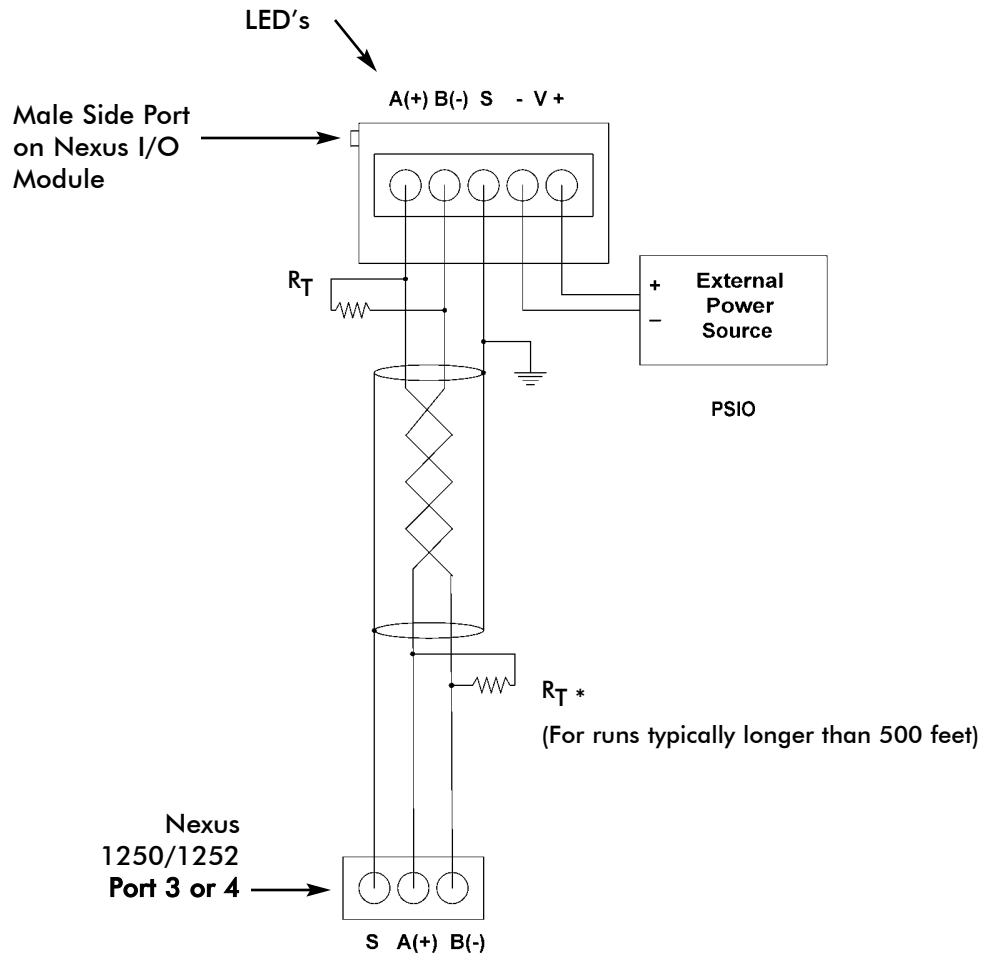

Figure 9.2: Nexus Meter Connected to I/O Module
- **Male RS-485 Side Port:** use to connect to the Nexus 1250/1252 Meter's Port 3 or 4 or to another module's female RS-485 side port. See Figure 9.2 for wiring detail.
- I/O modules must use the Nexus 1250/1252 Meter's Port 3 or 4. Six feet of RS-485 cable harness is supplied. Attach one end of the cable to the port (connectors may not be supplied); insert the other end into the communication pins of the module's Male RS-485 Side Port. Follow steps below and see Figure 9.2 below. See section 9.3 for details on using multiple I/O modules.